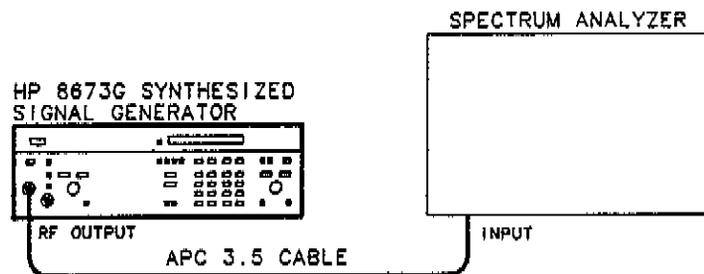

Figure 4-12. Harmonics, Subharmonics, and Multiples Test Setup
1. Connect the equipment as shown in Figure 4-12.